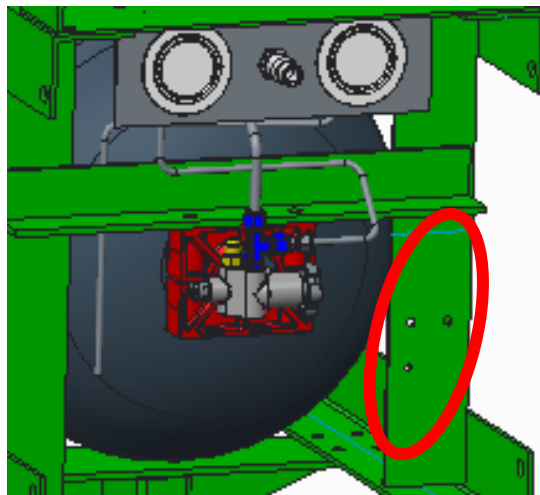

Figure 5. Drill holes for the filter bracket as shown.
5. See Figure 5. Drill the support to the right of the cylinder valve for the filter mounting bracket. Refer to drawing 24409103 in Appendix A.